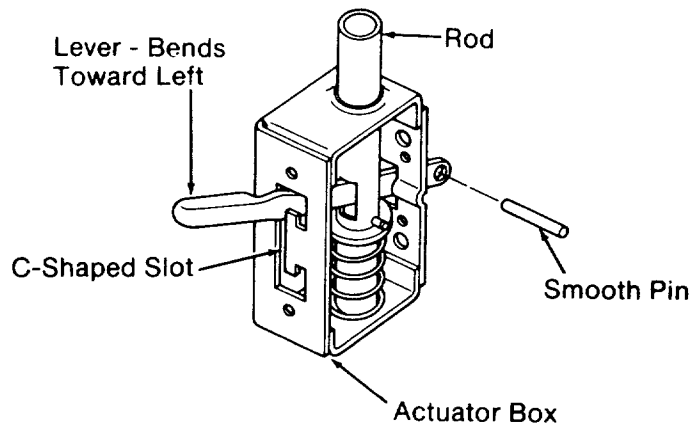

Fig. 23 - Building Left Foot Assembly
8. Slide a *lever* through the C-shaped slot in the *actuator box*, through the square hole in the *rod*, and through the square opening in the back of the *actuator box*. Make sure that the *lever* bends toward the left. (Figure 23)
10. Put a *smooth pin* through the hole in back of the *lever*. (Figure 23)